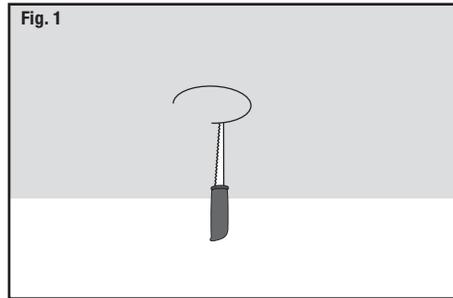

Fig. 1
3. Carefully cut hole in ceiling (Fig. 1).